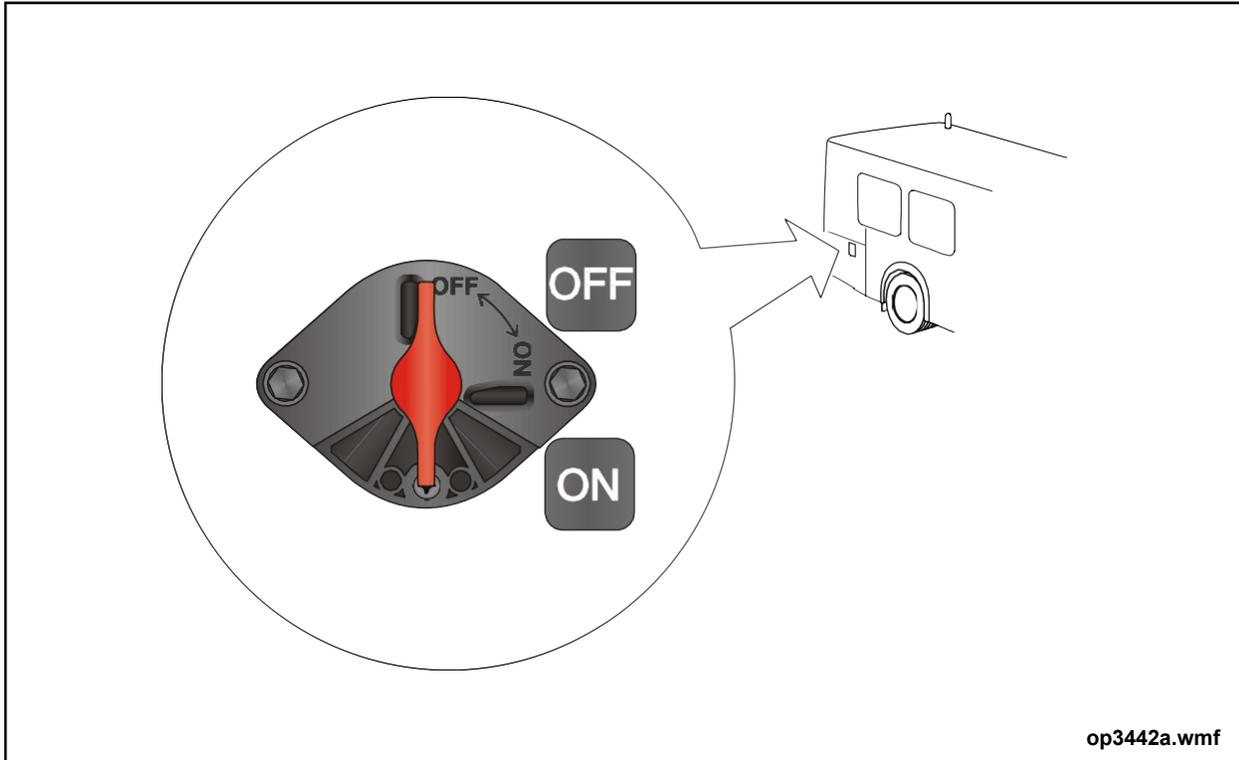

Figure 1: Battery Disconnect Switch
10. Shut down the 12/24 VDC electrical power to the vehicle by setting the Battery Disconnect switch to the OFF position. See “Figure 1: Battery Disconnect Switch” on page 14.